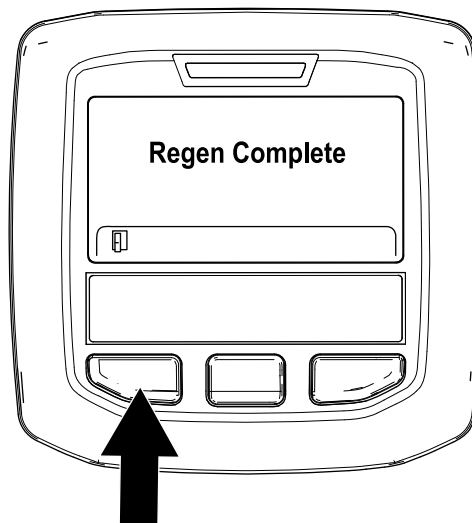

Figure 41
9. The parked regeneration is complete when the "Regen Complete" message displays in the InfoCenter. Press the left button to exit to the home screen (Figure 41).